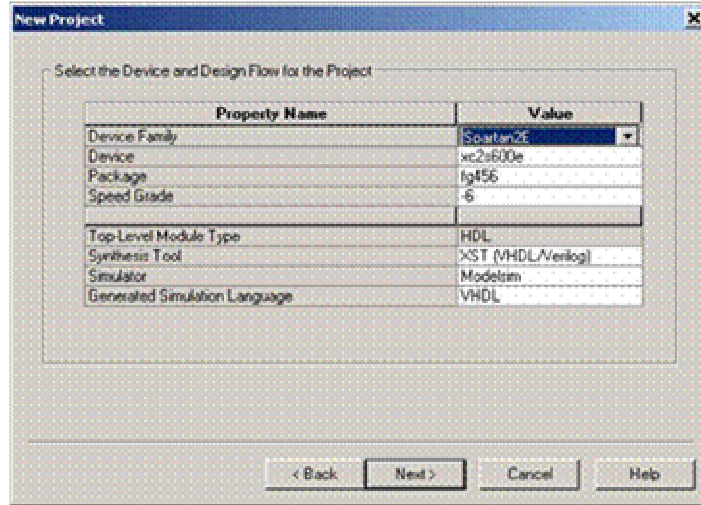

Figure 1: Device Settings
1. Open Xilinx ISE 6.2 and create a new project; As you did in previous labs open ISE 6.2 by going to **Start Menu** → **Programs** → **Xilinx ISE 6.2** → **Project Navigator**. Create a new project named **lab4** and choose the settings shown in Figure 1. These settings will ensure that the device has enough space to store your project.